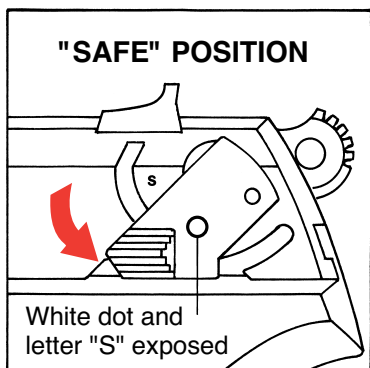

FIGURE 1
The pistol can and should be loaded and unloaded with the safety engaged in its “safe” position (lever fully down, white dot and the letter “S” exposed). **The safety should be in its “safe” position at all times except when the user is deliberately positioned to fire at a selected target.** See Figures 1 and 2, below, which illustrate the two positions of the safety.
2. **Move either the right- or left-hand safety lever fully downward to its “safe” position so that the letter “S” and the white dot are fully exposed.** (See Figures 1 and 2 on page 8).
4. For the 9mm P95 pistols, place ten (10) or fewer 9mm x 19 Parabellum cartridges into the magazine from the top.
The trigger is inoperable when the safety is fully engaged in its “safe” position (lever fully down, white dot and letter “S” exposed; see Figure 1 on page 8).
7. If the pistol is not to be fired immediately, the safety should remain in its “safe” position (see Figure 1, p. 8).
1. The muzzle of the pistol must be pointing in a safe direction at all times, and fingers should be outside of the trigger guard. Put the safety in its “safe” position (see Figure 1 on page 8) by rotating the safety fully downward until the letter “S” is fully exposed and the white dot shows. The safety can be engaged whether the pistol is cocked or not.